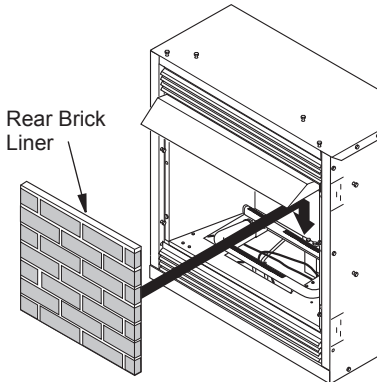

Figure 35 - Installing Rear Brick Liner
2. Place rear brick liner against back of firebox. The left and right brick liners will hold this liner in place (see Figure 35, page 21). Be sure to hold the rear brick liner while installing the sides so it will not fall forward.